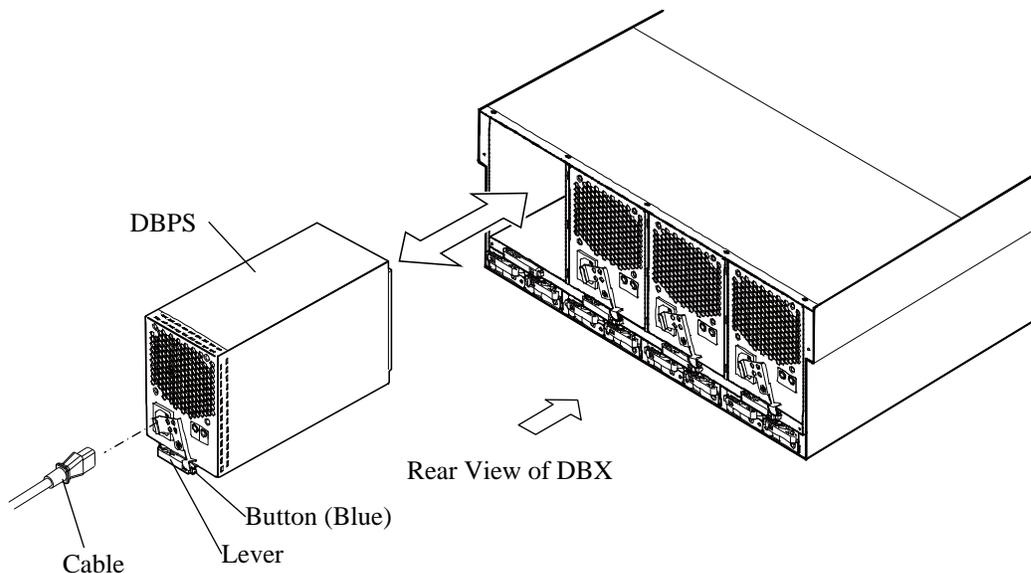

Fig. 3.27.2-8 Replacement of DBPS
- a. Install the Cable Routing Bar if it was removed. (Refer to Fig. 3.27.2-6.)
- b. Return the power cables and SAS cables to their original state and fix them with the Clamp Tape in the middle. (Refer to Fig. 3.27.2-5.)
- c. Install the Cable Tray. (Refer to Fig. 3.27.2-4.)
- d. Close the right and left Cable Routing Bars. (Refer to Fig. 3.27.2-2.)
- e. Install the Stopper in the rear side of the DBX. (Refer to Fig. 3.27.2-1.)